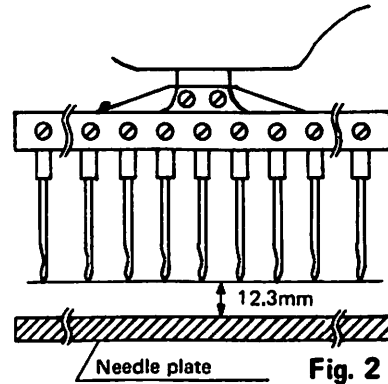

Fig. 2
- 1) Turn the pulley to lift the needle bar to the highest position, and loosen the screw (B) in Fig.2 fixing needle bar.
- 2) Adjust needle clamp so that needles enter needle holes when the needle bar is lowered. After adjustment, tighten screw (B) in Fig.2 fixing the needle bar.